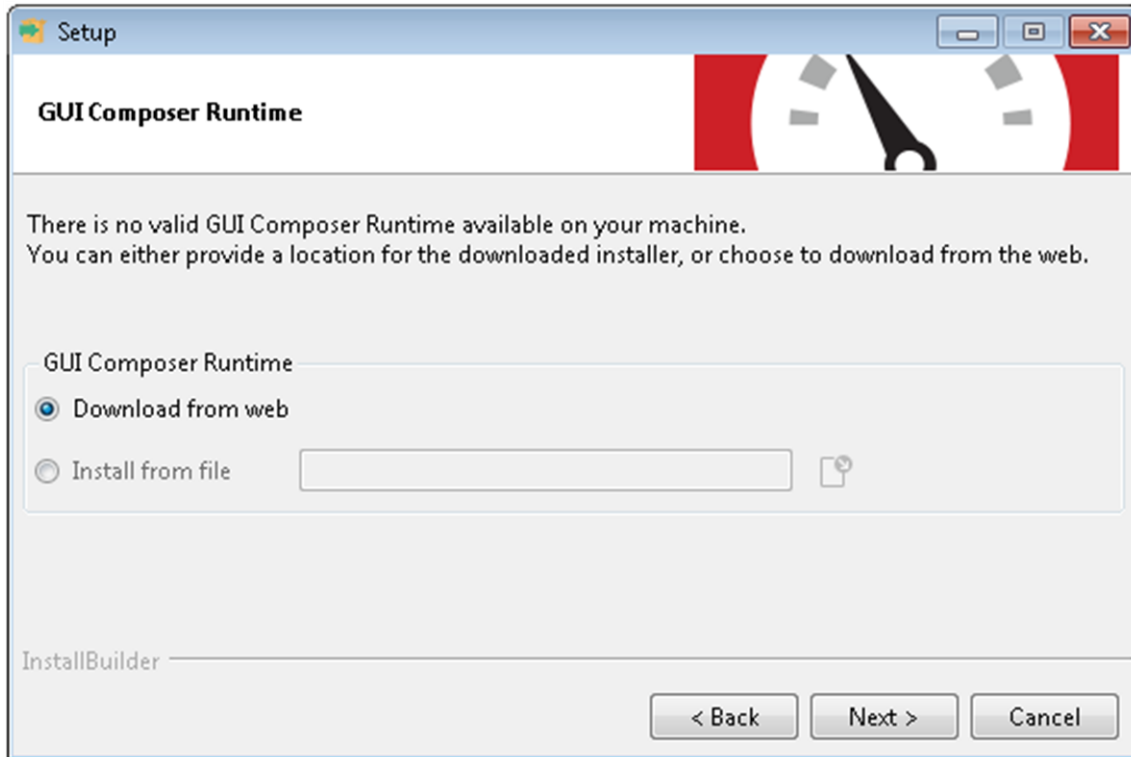

Figure 11. GUI Composer Runtime
- Step 6. If the GUI Composer V2 Runtime is not available on the PC, the installer displays the window shown in Figure 11. Either enter a location or download from the web and click the *Next* button.